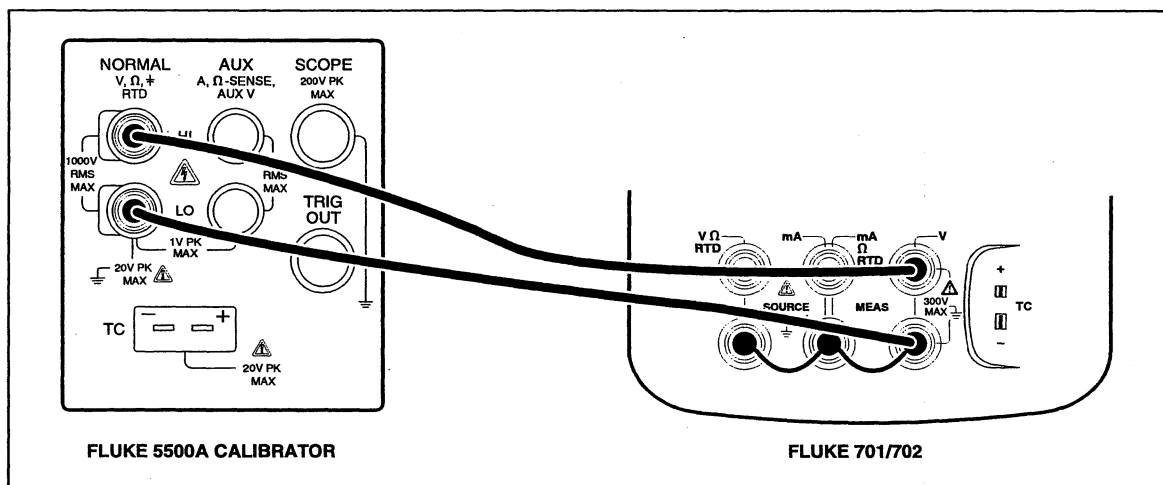

Figure 3-1. DC Volts and AC Volts Measure Connections
1. Connect the UUT to the 5500A as shown in Figure 3-1. Connect the three lows (black input jacks) with jumpers.
1. Connect the UUT to the 5500A as shown in Figure 3-1. Connect the three lows (black jacks) with jumpers.